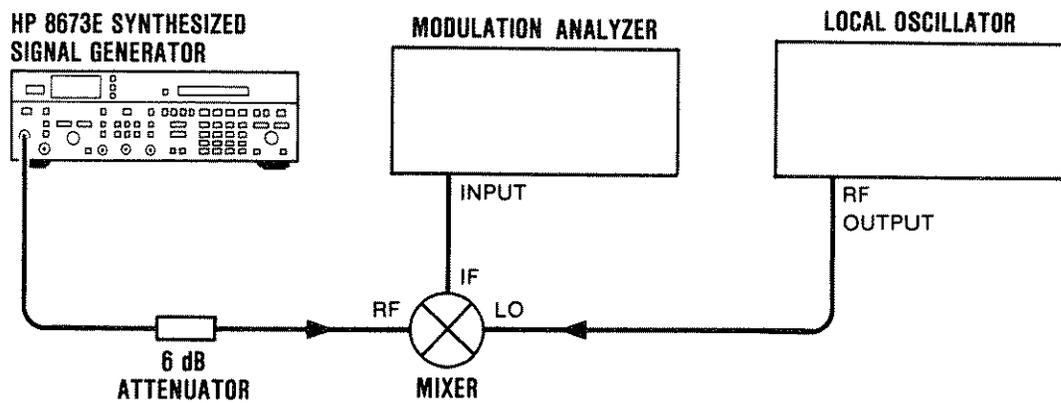

Figure 4-7. Residual AM Test Setup
1. Connect equipment as shown in Figure 4-7.